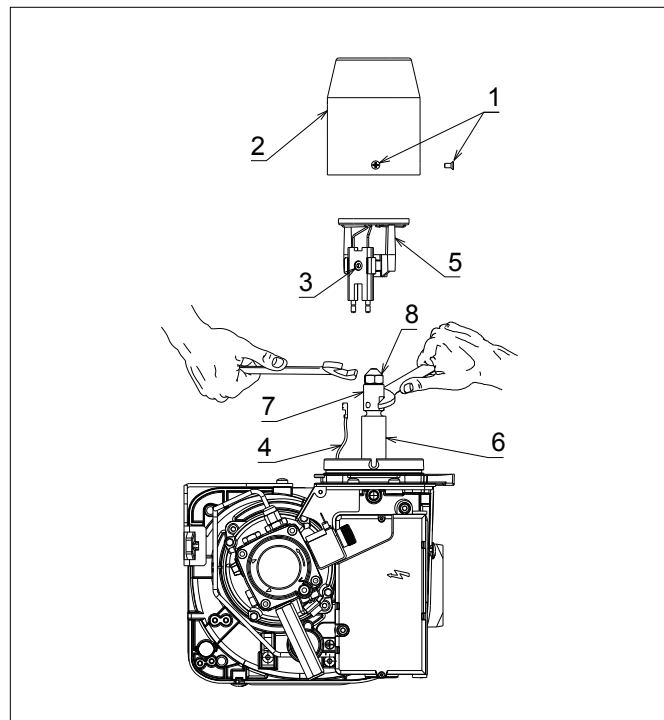
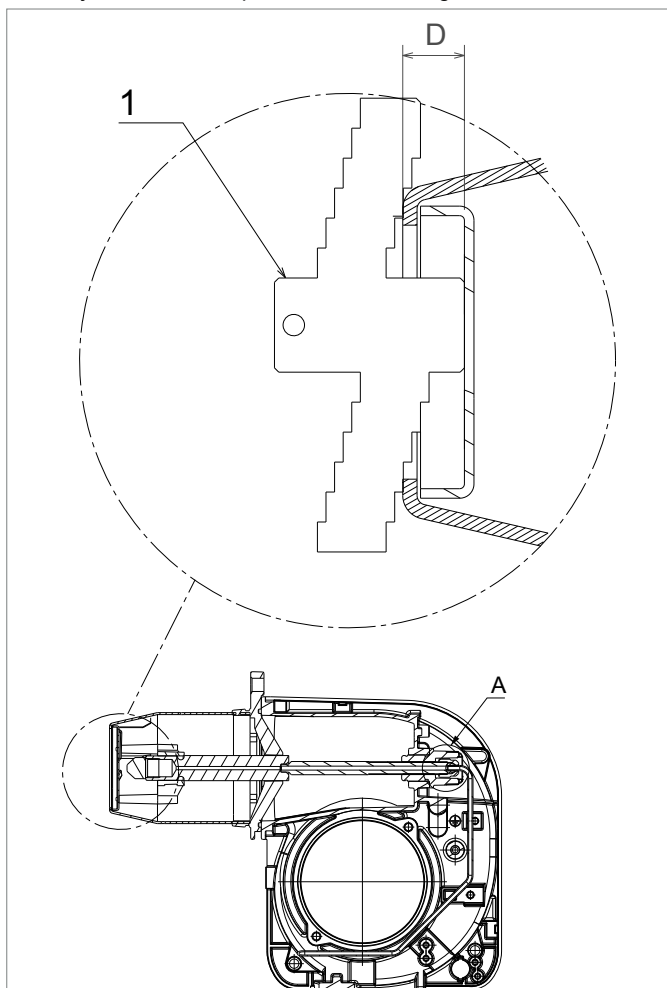

Figure 10-3: Burner head, diffuser and nozzle holder
Figure 10-5: Riello RDB 2.2 BX diffuser position and gauge plate
4. Remove the burner head. Refer to Figure 10-3. Loosen the three fixing screws (1) and remove head (2) from burner.
6. If the nozzle needs to be replaced - remove the diffuser/ electrode assembly. Refer to Figure 10-3.
- Using a 4 mm Allen key, loosen the diffuser fixing screw (3) on the electrode assembly.
- Lift diffuser/electrode assembly (5) up and off the nozzle holder.
- Disconnect both ignition leads (4) from the electrodes.
8. Re-fit the diffuser/electrode assembly. Refer to Figure 10-3.
- Reconnect ignition leads (4) to electrodes.
- Re-fit the diffuser/electrode assembly (5) onto the nozzle holder lining up the fixing screw with the recess in the nozzle holder.
- Tighten the fixing screw (3) to secure the diffuser/ electrode assembly in place on the nozzle holder.
7. Re-fit the burner head. Refer to Figure 10-3.
- Locate the head fixing screws (1) in the countersunk slots in the burner collar.
- Tighten the three screws (1) to secure the head (2) in position on the burner.
8. Adjust the diffuser position. Refer to Figure 10-5.
- Position the gauge on the burner head as shown in Figure 10-5.
- If necessary, adjust distance D using the black adjustment knob located around the oil supply pipe on the front of the burner. Refer to item A (Figure 10-5). Re-check distance D using the gauge plate, as described above.